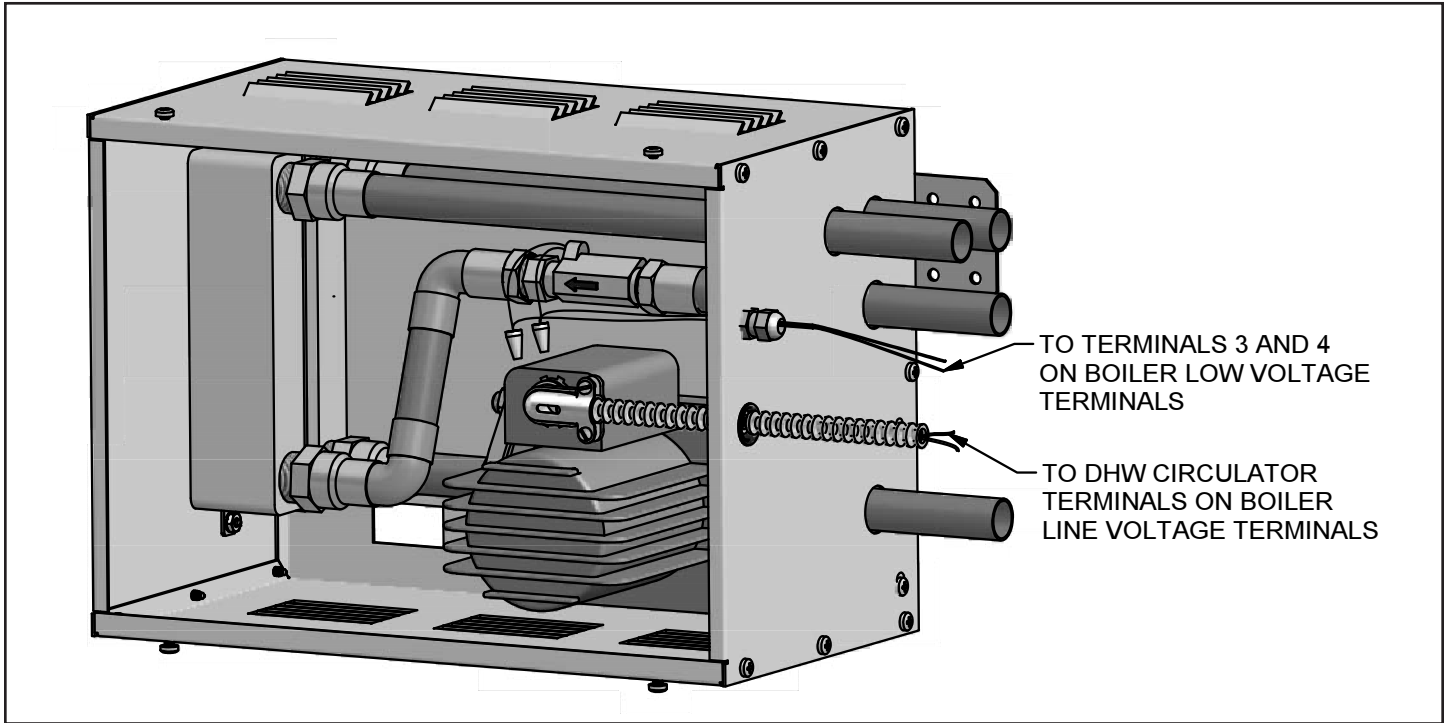

Figure 5. Electrical wiring connections
2. Wire the DHW system circulator's junction box leads to the boiler's "DHW CIRC" line voltage terminals. Use 14 gage conductors in BX or conduit, secured to the connectors provided (See figure 5).
3. Wire the DHW system water flow switch to the boiler's "DHW T-STAT" low voltage terminals. Pass the wire through the strain relief grommets provided (See figure 5).